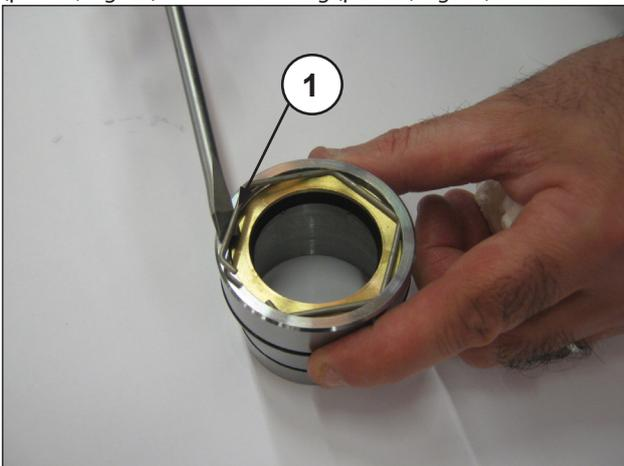
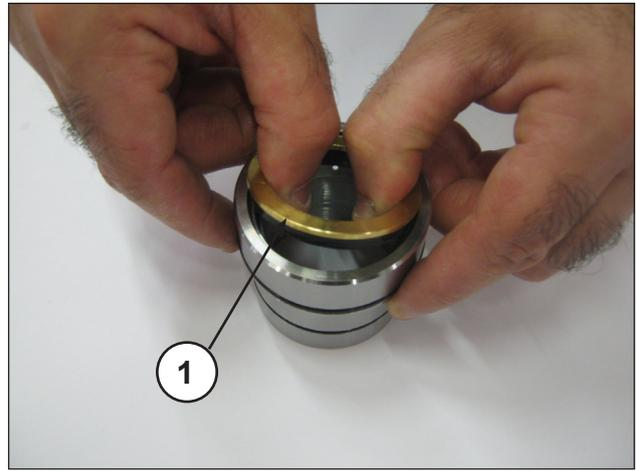

Fig. 33
Fig. 34
To remove the low pressure seal, remove the retaining ring (pos. ①, Fig. 33) and the seal ring (pos. ①, Fig. 34).